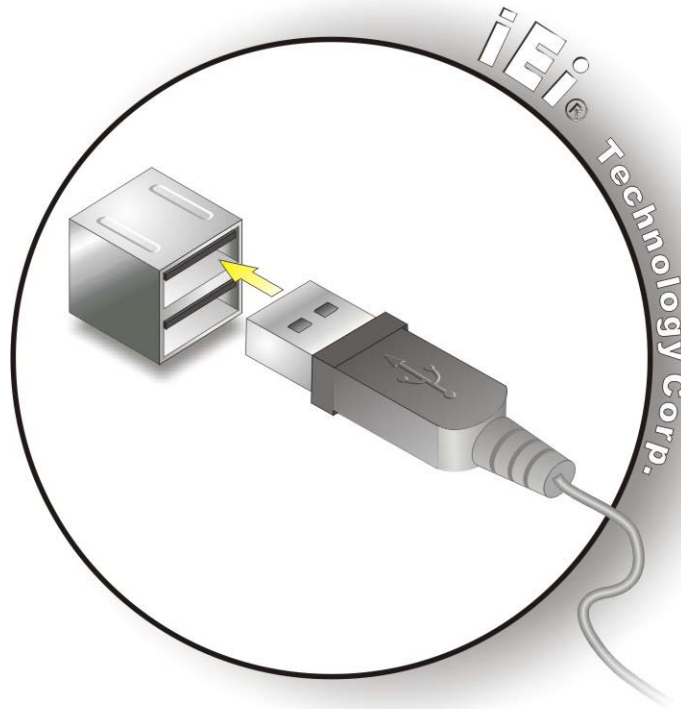

Figure 3-13: USB Device Connection
Step 2: **Align the connectors.** Align the USB device connector with one of the connectors on the external peripheral interface. See Figure 3-13.